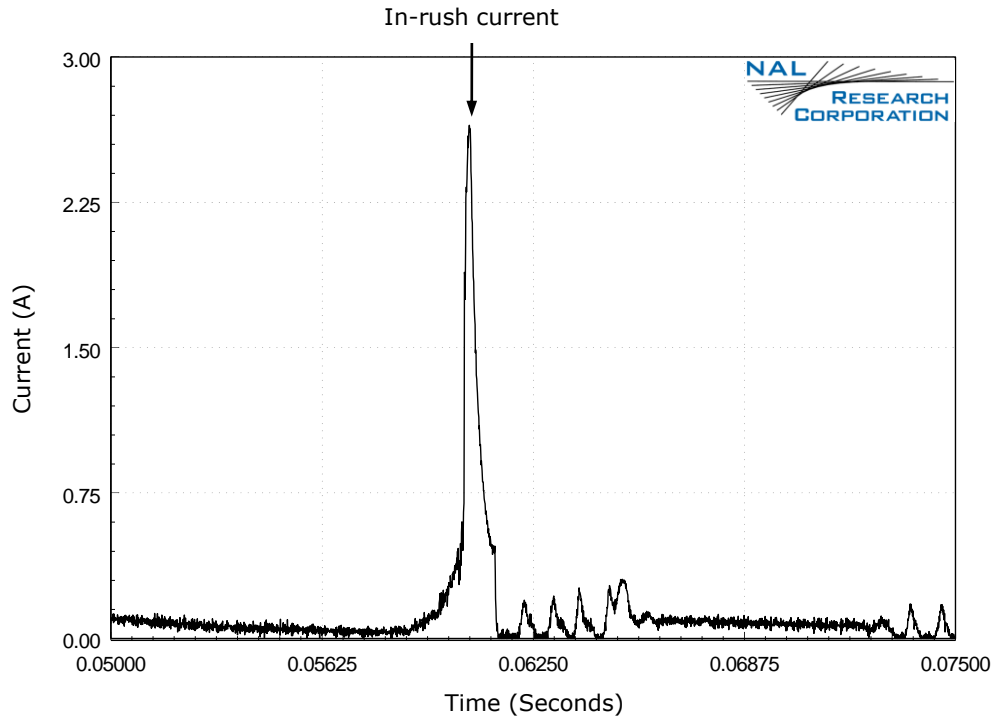

Figure 17. In-Rush Current Spike during Power-Up in Command Mode at 5VDC Input.
Power consumption of the 9602-LP can be divided into distinct operating segments: (1) power up, (2) standby, (3) sleep between reports, (4) GPS acquisition, and (5) SBD report transmission. At power up in command mode, typical in-rush current of ~3A-4A over a few milliseconds is mainly due to the current drawn by the 9602 (see Figure 17).